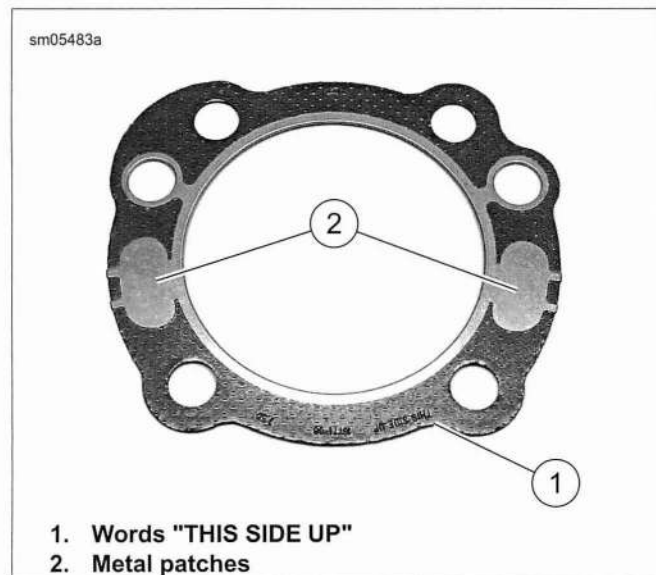

Figure 3-94. Cylinder Head Gasket: XR 1200X
XR 1200X: See Figure 3-94. The cylinder head gasket has metal patches (2) that must be installed against the cylinder head. When installing the gasket on the cylinder, be sure the words "THIS SIDE UP" (1) and the metal patches (2) are visible.